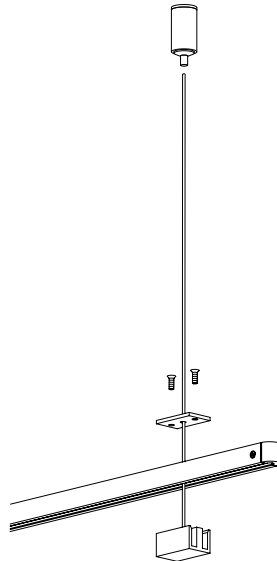

Fig. 6
2. Pass the Ceiling Hanger cable through the Power Bar, then through the center hole of the cover, making sure the counter-sunk holes on the cover are facing up. Attach the cover to the Ceiling Hanger using the two small Phillips screws. (Fig. 6)